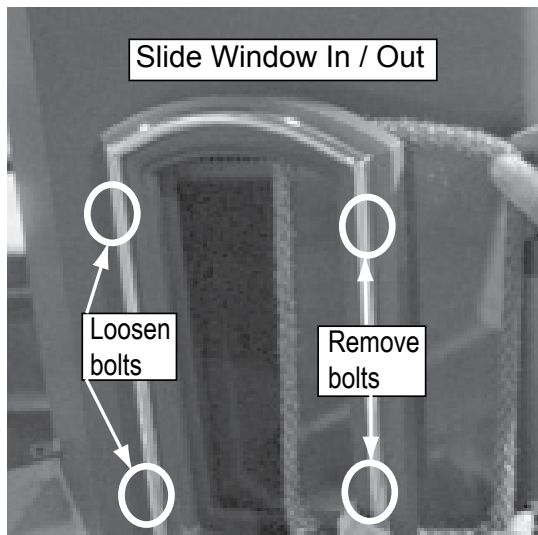

Figure 30.1
3. Only remove the 2 bolts, top and bottom on the side closest to the firebox opening. **Figure 30.1**